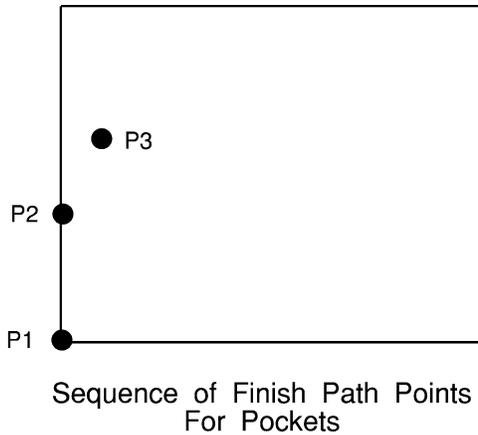

Figure 4.2.5
17. Position the mouse arrow near the lower left corner of the large square and press the <LMB>. This is the starting point (P1) of the cutting move. Move the mouse arrow above that point and press the <LMB> again. This point (P2) determines the direction of the cutting move. Position the mouse arrow to the right of the vertical line and press the <LMB>. This point (P3) indicates that the tool compensation is to the right of the selected segment, therefore, the inside of the square will be cut. The finishing cut path for the border is now on the screen. **Figure 4.2.5.**